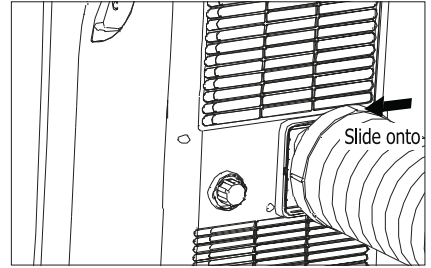

Fig. 7
4. Slide the assembly onto unit (Fig. 7).